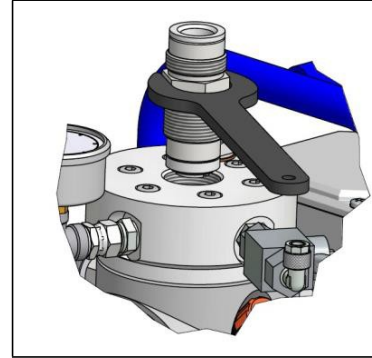

Fig.10.1.3
5. (Fig.10.1.3) Unscrew intake valve from the valve block with an SW36 wrench.